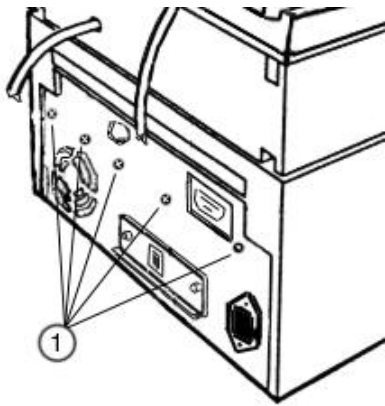

fig 4.8
- 2) unscrew the 5 screws marked with the carved “↑” symbols (see ① figure 4.8).
- 2) slide out the tray for half of its length (see figure 4.8 and 4.9)